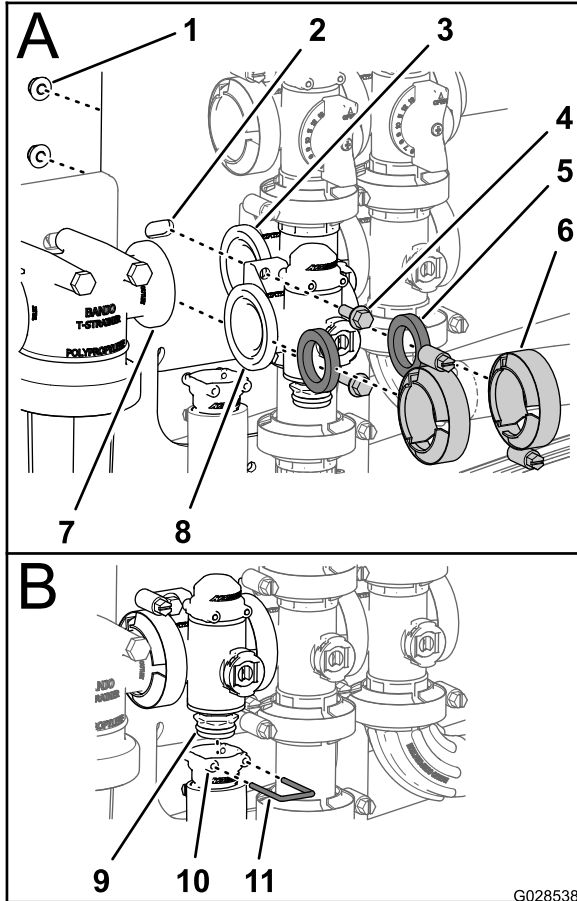

Figure 111
1. Align a gasket between the flanges of the rate control valve manifold and the pressure filter head (A of Figure 111).
4. Assemble the rate control valve manifold, gasket, and agitation-valve manifold with a flange clamp and tighten by hand (A of Figure 111).
5. Assemble the rate control valve to the valve mount with the 2 flanged-head bolts and 2 flanged locknuts (A of Figure 111) that you removed in step 3 of Removing the Rate Control Manifold Valve \(page 73\) and torque the nut and bolt to 10 to 12 N·m (90 to 110 in-lb).
6. Assemble the outlet fitting onto the coupling fitting at the bottom of the manifold for the rate control valve (B of Figure 111).
7. Secure the outlet fitting coupling fitting by inserting a retainer into the socket of the outlet fitting (B of Figure 111).
2. Assemble the rate control valve manifold, gasket, and pressure filter head with a flange clamp and tighten by hand (A of Figure 111).
3. Align a gasket between the flanges of the rate control valve and the agitation-valve manifold (A of Figure 111).